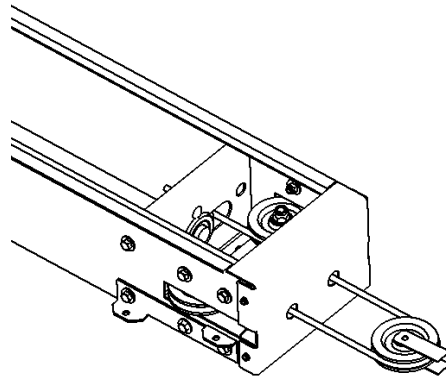

Figure 17
9. If mounting machine horizontally in order to pull cables straight from end of machine, remove (2) plastic plugs found at top of machine to access pre-punch holes for routing cables. Loop cable around bearing supported pulley to ensure even load distribution on load block. Use 3 ½" diameter V-groove pulley to maintain proper cable spacing. **(Figure 17)**